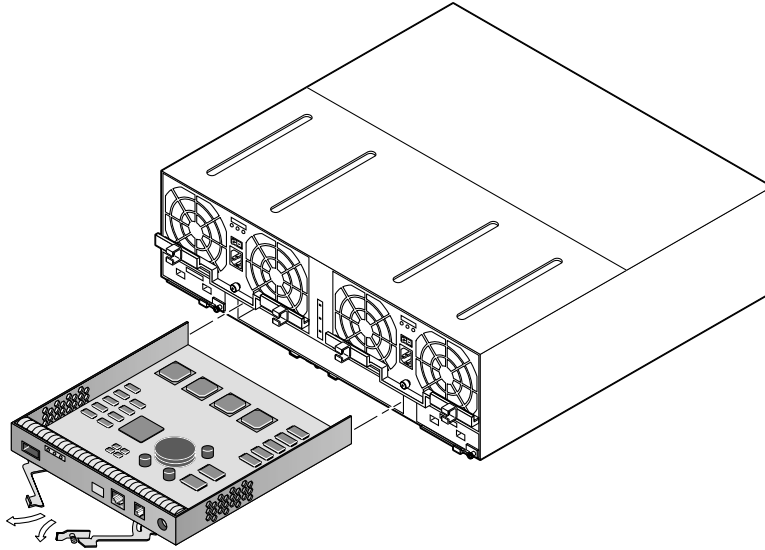

FIGURE 6-15 Removing the Controller Card
6. Pull the latch handles to release the controller card from the connector and remove it from the array (FIGURE 6-15).